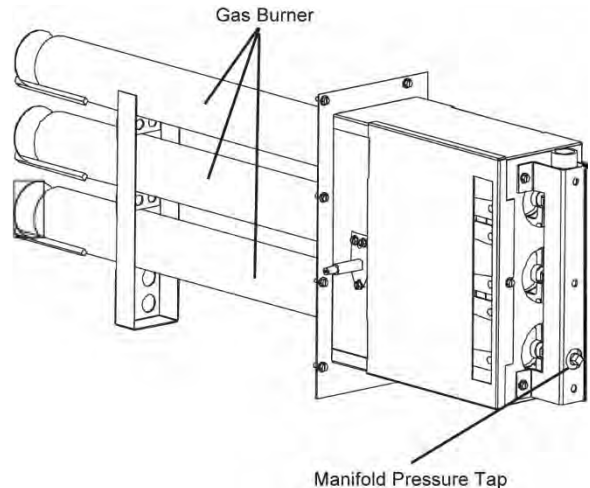
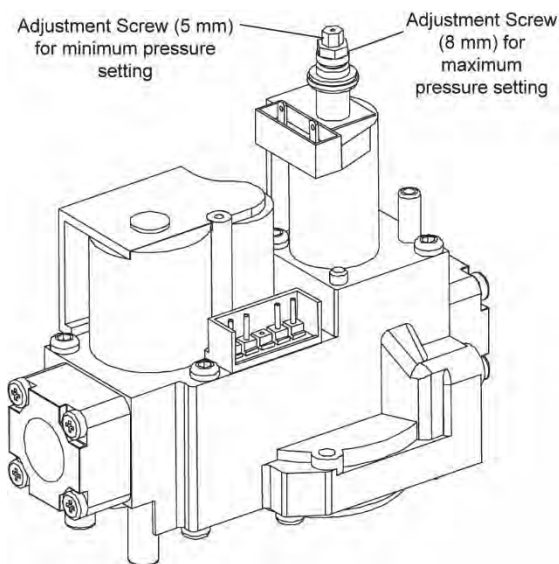

Figure 21. Gas Burner Assembly
Figure 23. Gas Valve
Inlet, regulated, and pilot gas pressure readings can be taken using a digital tube manometer at the tap location shown in Figure 21. Figure 21 shows the burner assembly and Figure 23 shows the gas valve.
2. Connect a digital pressure manometer to the gas manifold (Figure 21) to measure burner pressure (measuring point must be as near to burner as possible).